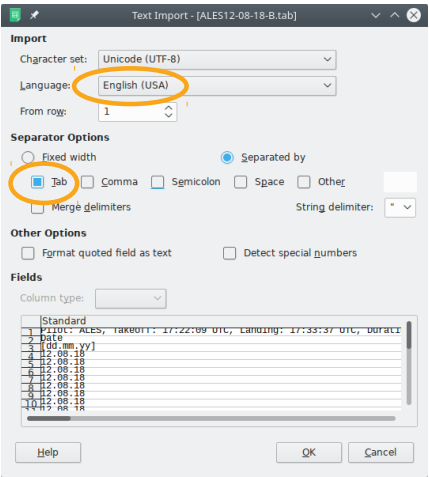

Figure 52: An example of Calc Text Import window.
5. Calc detects that a text file is being imported and it opens a window as shown on Figure 52. Please make sure that the *Tab* option is selected as the separator and *English (USA)* as the language. This makes sure that decimal values are properly imported.